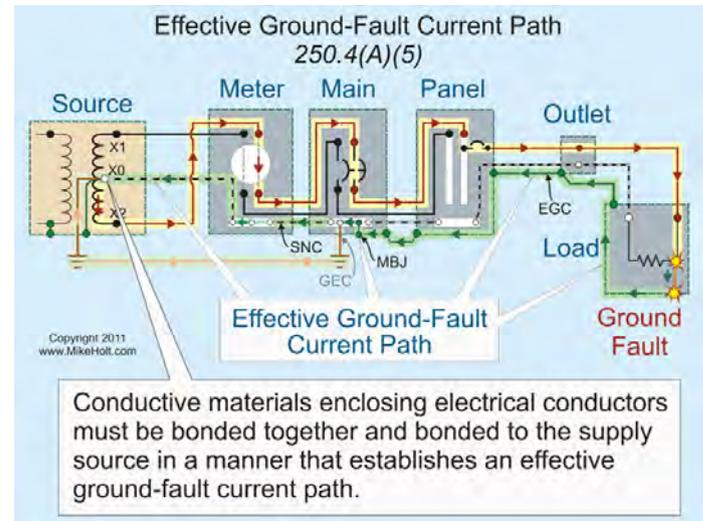

Figure 250-17
(5) Effective Ground-Fault Current Path. Metal parts of electrical raceways, cables, enclosures, or equipment must be bonded together and to the supply system in a manner that creates a low-impedance path for ground-fault current that facilitates the operation of the circuit overcurrent device. **Figure 250-17**